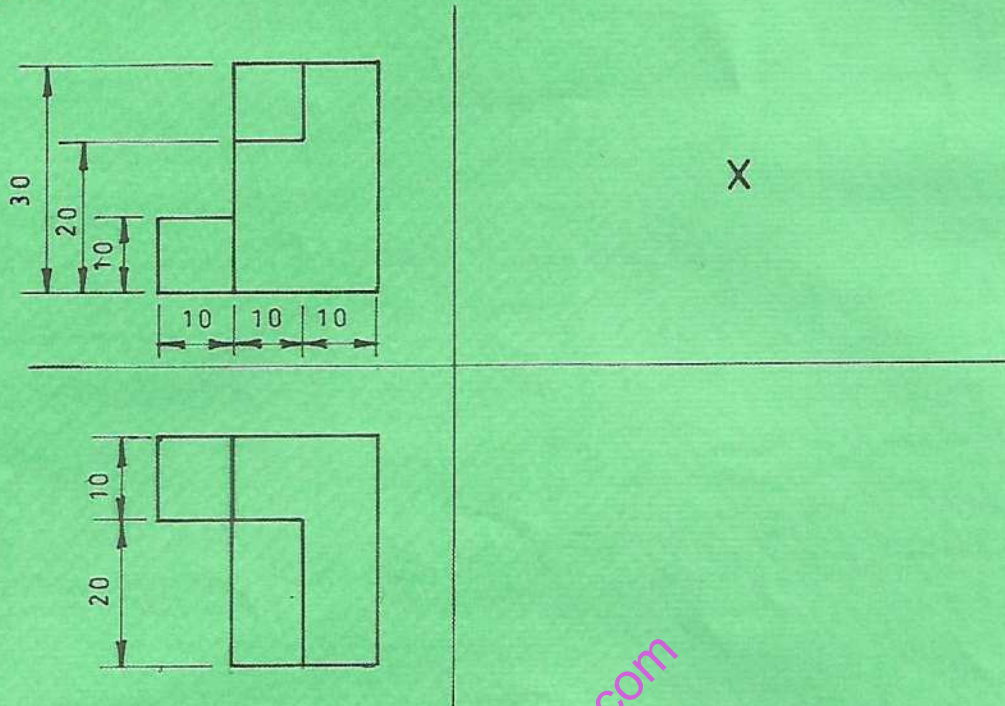

Fig.1
1. Figure 1 shows a front elevation and a plan of a shaped object drawn in 1st angle orthographic projection.